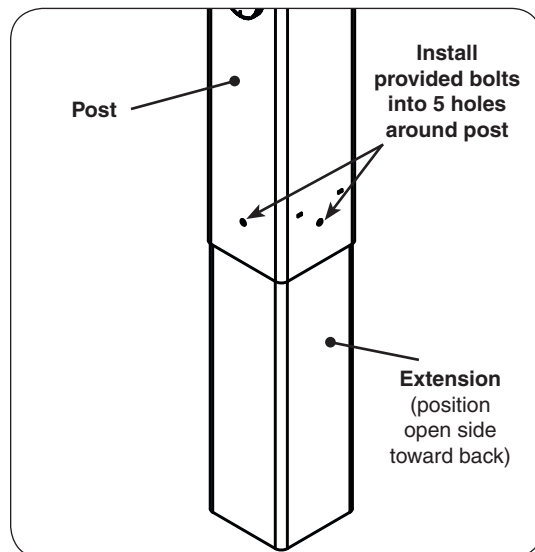

Fig. 20-1 Install extension to post
1. Attach the extension to the bottom of the grill post so that the open portion is toward the back of the grill and the five holes in the extension line up with the five (5) weld-nuts in the post (see Fig. 20-1).